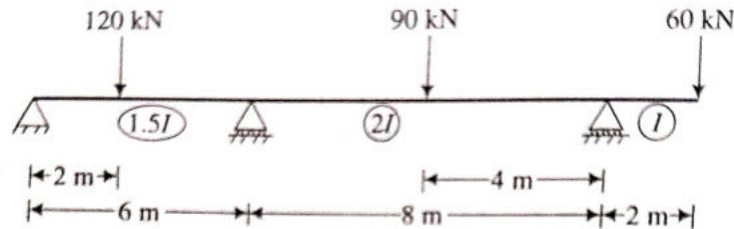

Figure 5.
9. Analyze the continuous beam shown in figure 5, by stiffness matrix method.